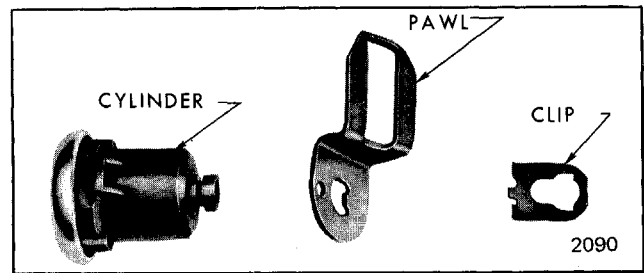

Fig. 5-49-Door Lock Cylinder Assembly
2. With a pointed tool, disengage pawl retaining clip and remove pawl (Fig. 5-49).